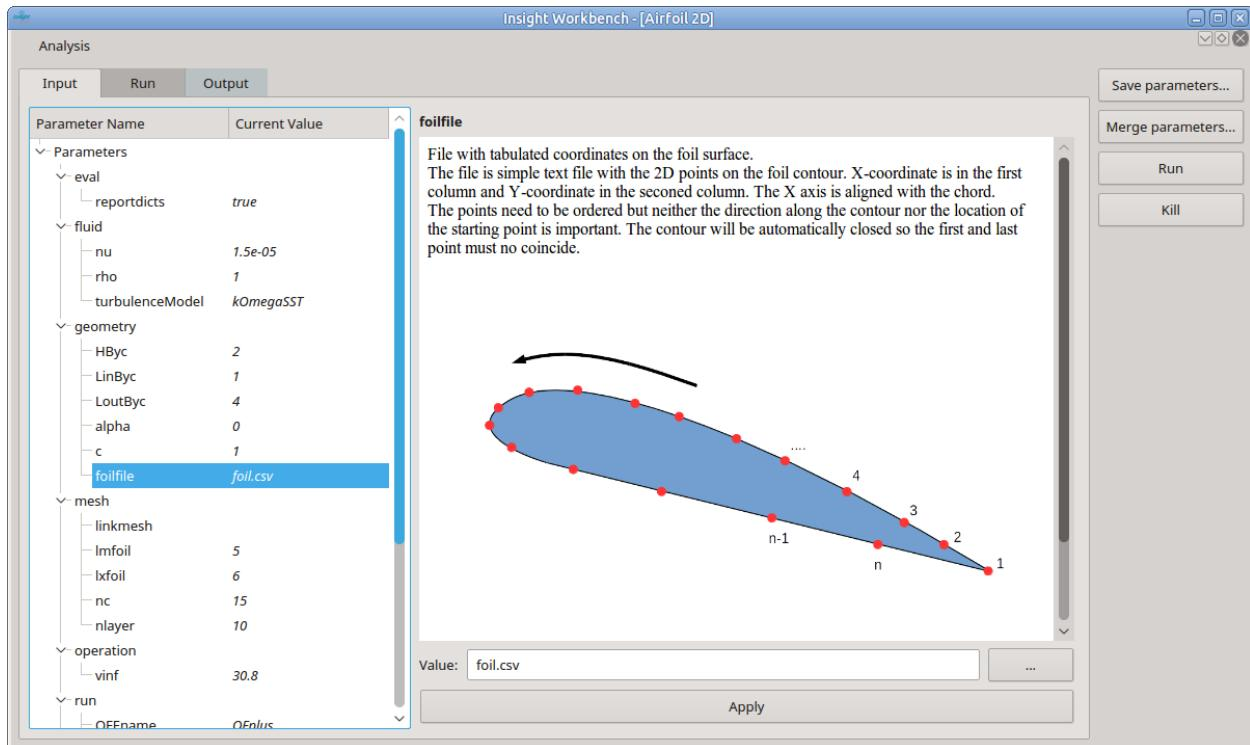

Figure 5: Parameter editing tab of the workbench
**Editing the Input Parameters** The parameter input tab is shown in figure 5. On the left, there is a tree view showing all the available parameters of the analysis. The font display style of the parameter entry denotes the importance of the parameter: